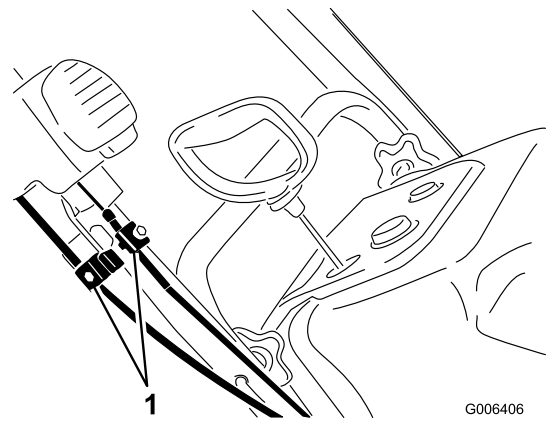

Figure 31
1. Loosen the 2 Quick Shoot control-cable clamps (Figure 31).